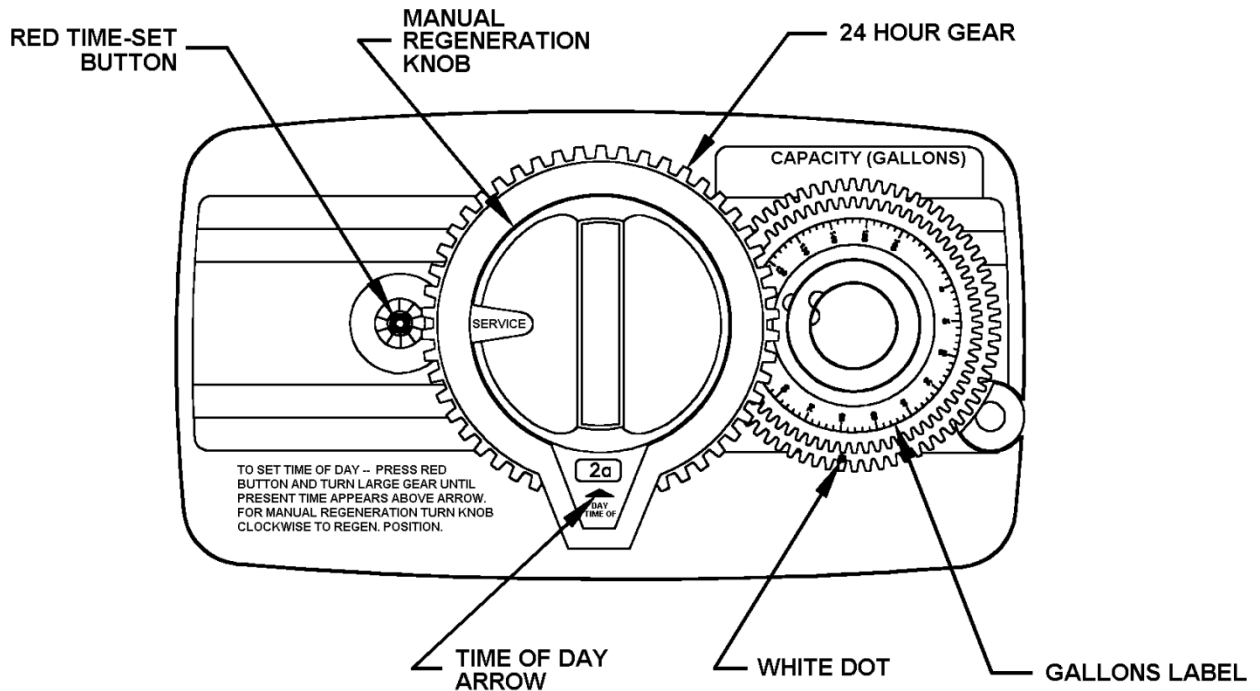

FIGURE 5: Front of Mechanical Meter Timer Assembly
- STEP 10:** Rotate the Manual Regeneration knob (see Fig. 5, page 7) clockwise to the "Backwash" position.
- STEP 19:** Set the current time of day on the timer. Be sure to note AM vs PM (refer to Fig. 5 on page 7).
- STEP 20:** Set the regeneration frequency (refer to Fig. 5 on page 7).